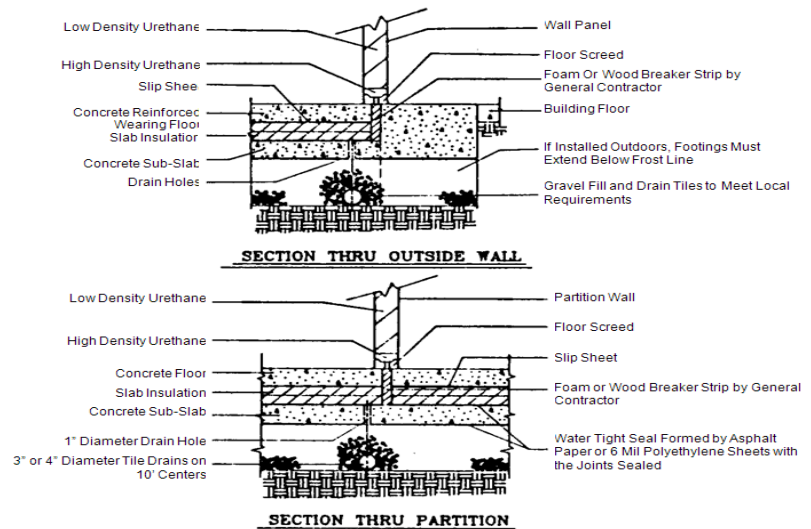

Figure 5 - Building Floor Section
1. Most floorless applications require a building floor designed with slab insulation and breaker strips built into the floor by the general contractor (Refer to Figure 5). **Insulated wall panels and screeds, if supplied, must be installed on the breaker strip.** The breaker strip reduces heat transfer from the warm side of the panels to the cold side of the panels. The breaker strip must be exposed and not covered by concrete or mortar. Chip away any concrete that may be covering the breaker strip. The recommended breaker strip size is 2" x 8" with a minimum recommended size of 2" x 6".